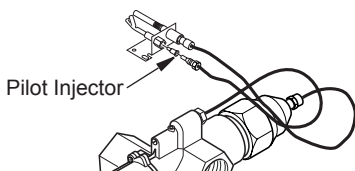

Figure 14 - Installing Propane/LP Pilot Orifice
1. Gently loosen and remove pilot line connection from bracket (see Figure 14).
2. Replace injector (see Figure 14) with propane/LP pilot injector with red stripe.